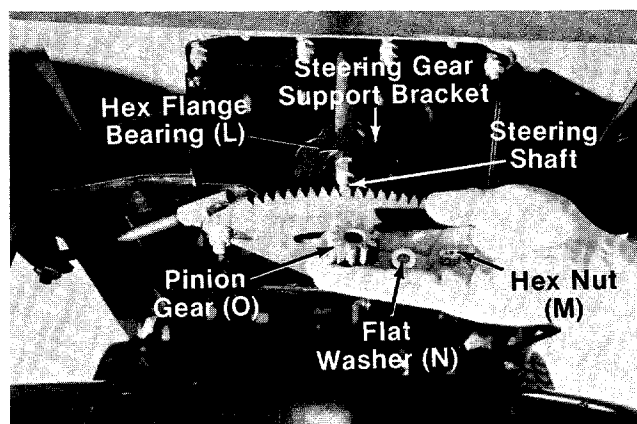
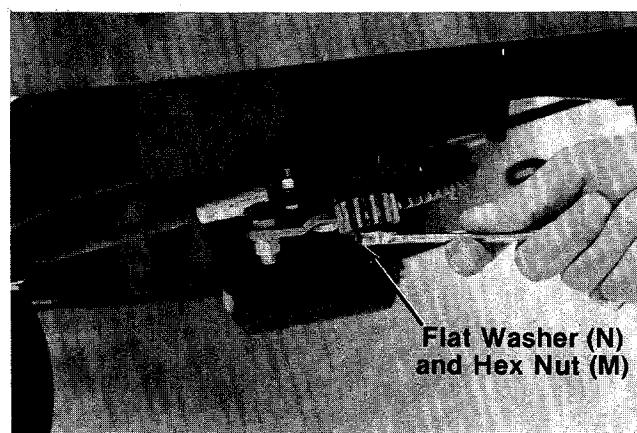

FIGURE 8.
FIGURE 9.
8. **Style A**—Insert the **steering shaft** with assembled parts through the **steering housing cover**. The lower end of the shaft should extend through the hole in the front end of the **steering gear support bracket** (Ref. No. 12 on page 30). See figure 8.
10. Place **hex flange bearing (L)**, flat side down, over the end of the **steering shaft**, and seat it into the **steering gear support bracket**. See figure 8.
11. Position **pinion gear (O)** over splined collar on **steering shaft**. Then place **flat washer (N)** (5/8" diameter) on shaft and secure with **hex nut (M)** (5/16" I.D.). Do not tighten at this time.
13. Now tighten the hex nut (M) which secures the pinion gear. See figure 9.